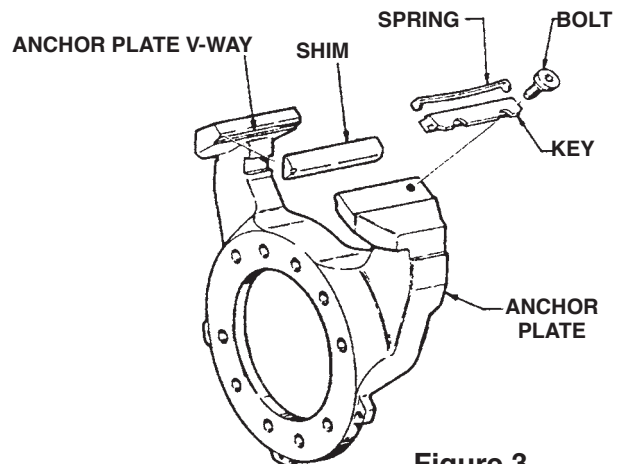

Figure 3
1. Remove the caliper assembly from the anchor plate and install the selected shim on the anchor plate v-way opposite to the key and spring v-way (see Figure 3).